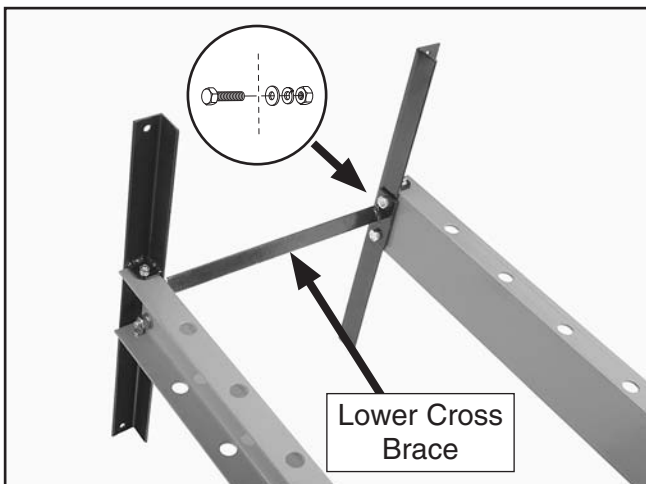

Figure 5. Lower cross-support installation.
3. Using a 22mm wrench, fasten the lower cross brace to both base rails with four M14-2 x 40 hex bolts and four of the matching flat washers, lock washers, and hex nuts, as shown in **Figure 5**.